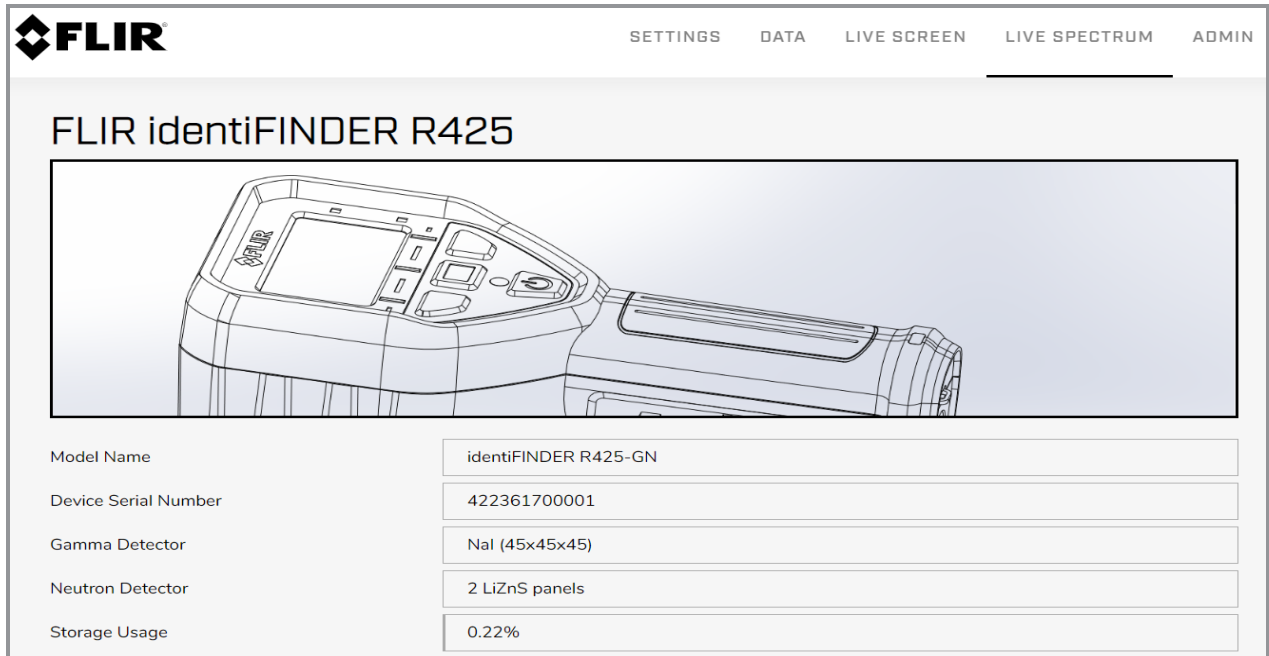
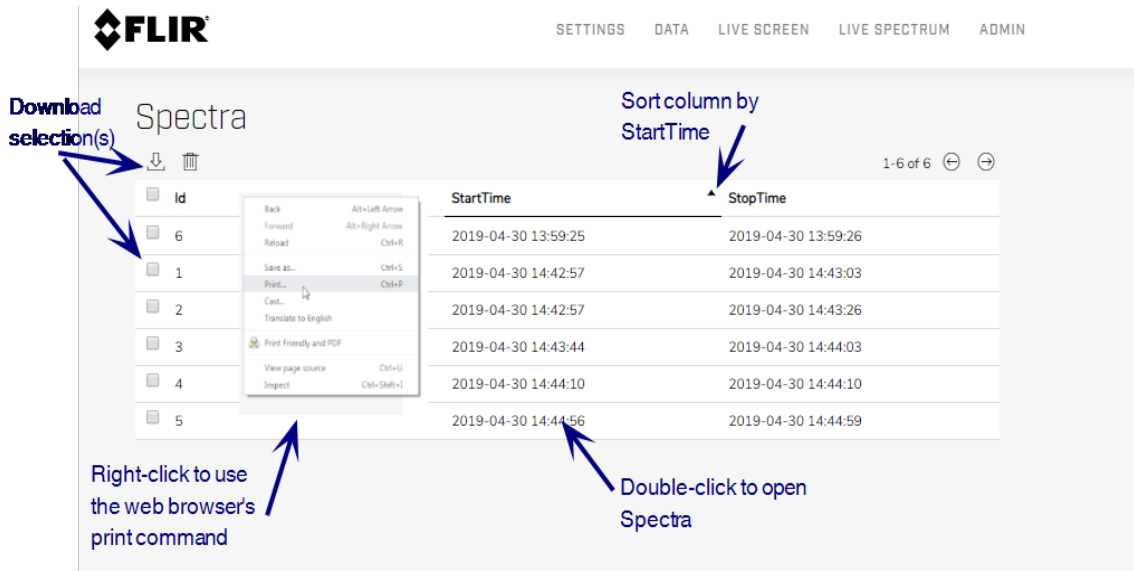

Figure 3-12: R425 Web interface home page
Figure 3-13: Spectra table sorted by Start Time
2. Open one of the following supported web browsers and navigate to <http://r425.local> to display the home page (Figure 3-12):
- Microsoft® Internet Explorer® (IE), version 11 or above
3. Follow the appropriate menu path to view the data you are interested in; for example, follow the path **Data | Spectra** to view the spectra records shown in Figure 3-13.
4. To help you look for the data you want, click the sorting button in one of the column titles (Figure 3-13).